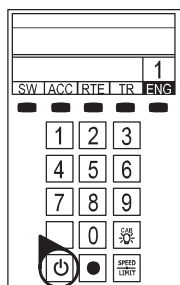

Figure 2. LEGACY start-up
5. **Press the Start Up button on your LEGACY CAB-2 Remote, shown in Figure 2. Then, throttle up and move 'em out!** Your engine sound will start up, and the locomotive set-specific touch screen buttons will populate the remote. For more information on operating your locomotive set with the LEGACY system, please refer to the LEGACY section of this manual. Additional information is also found in the LEGACY System Manual, available online at [www.lionel.com](http://www.lionel.com).